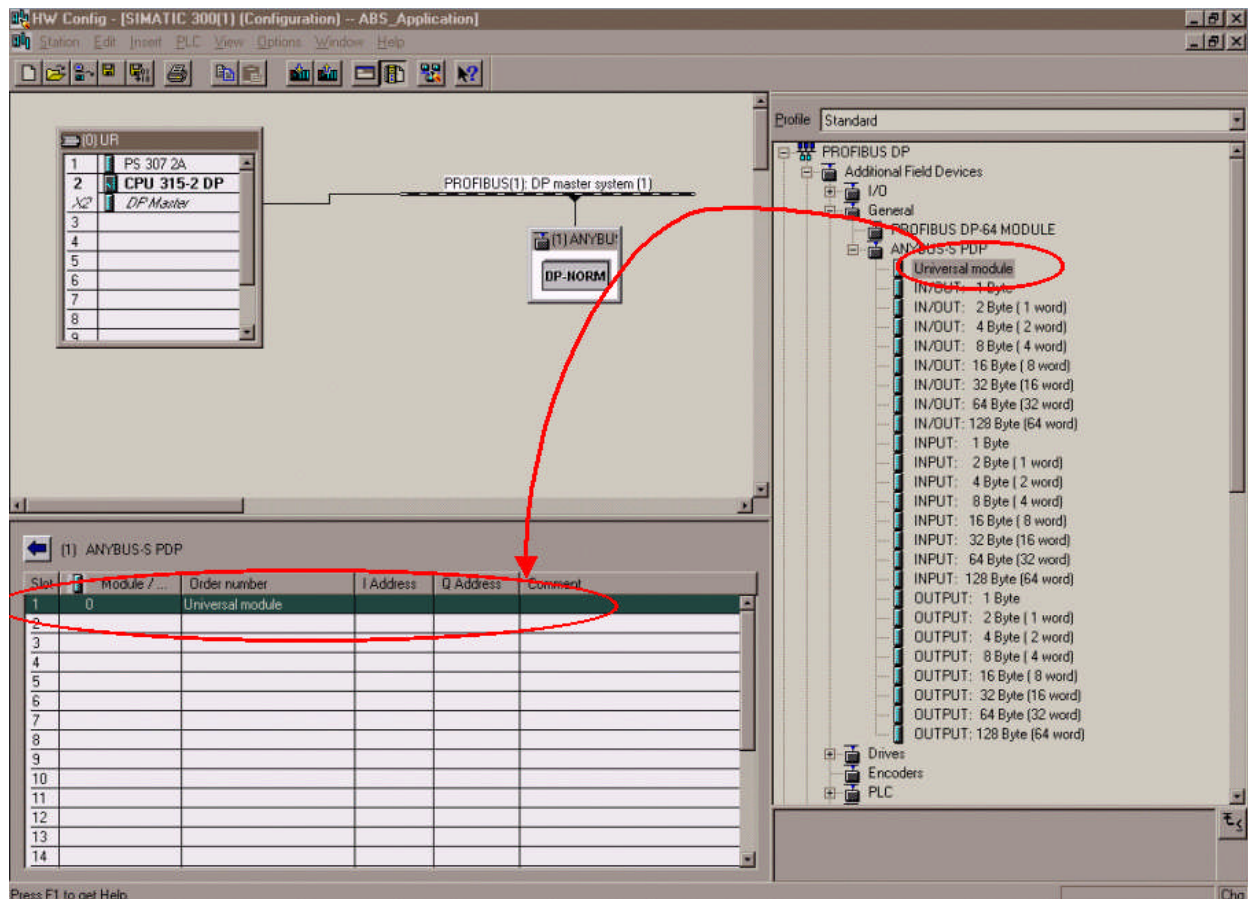
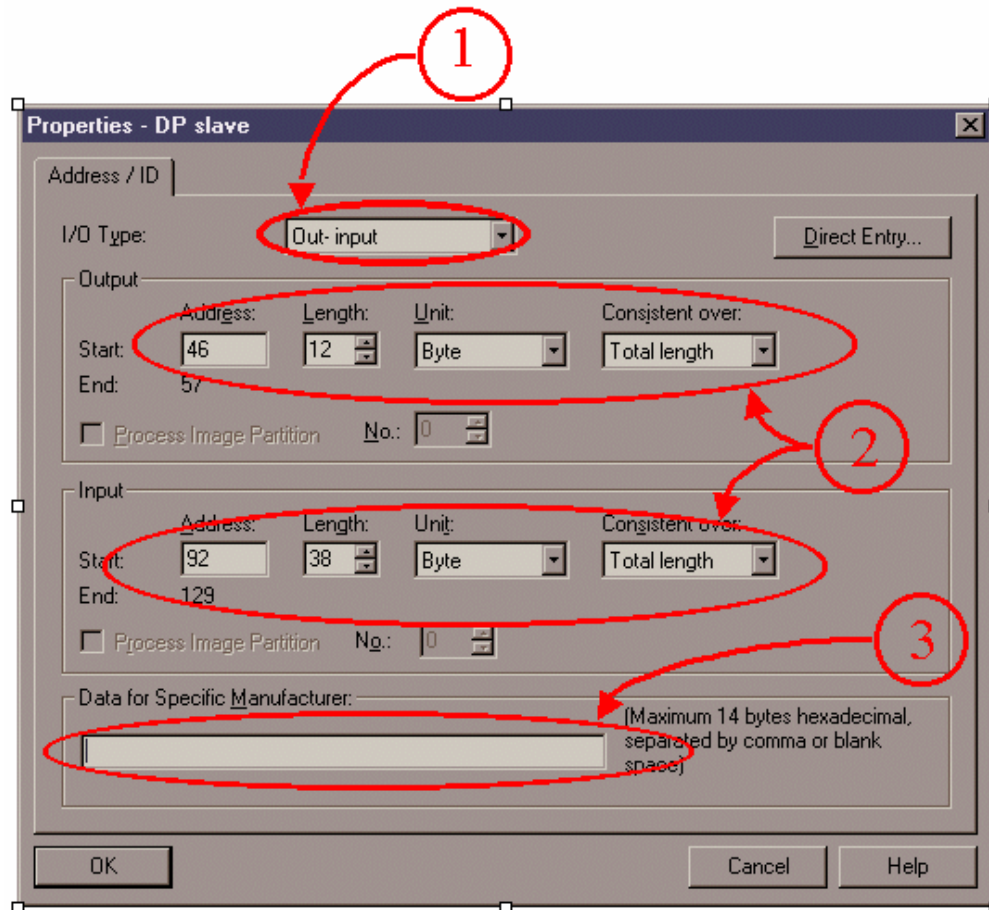
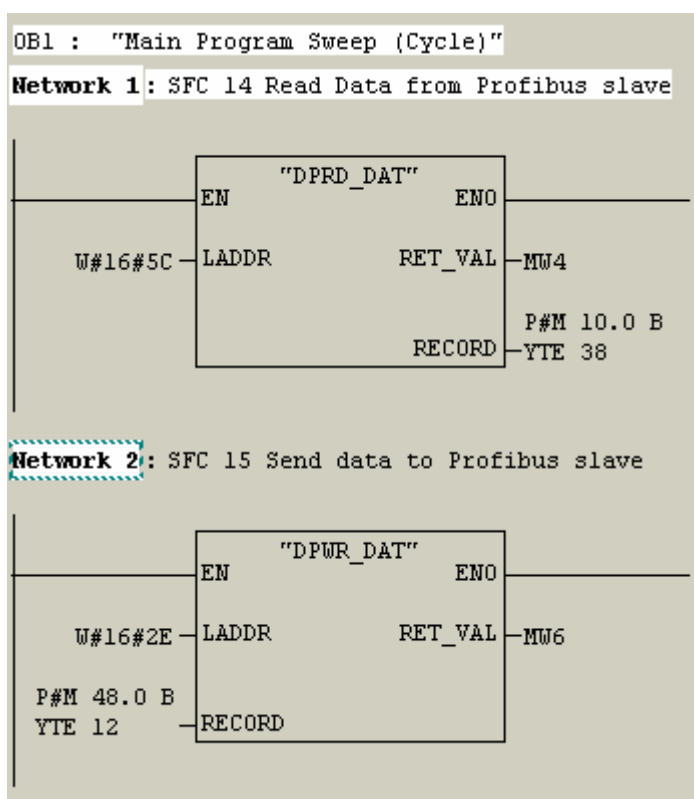

Figure 16 Selecting the Universal Module for consistent data transfer
Figure 17 Specifying the properties for the Universal Module
Figure 18 The use of the SFC14 and SFC15 in the PLC program
The first thing that has to be done is to specify the consistent data area in the hardware configuration. The “Universal Module” can be selected with “drag and drop” as shown in Figure 16.
In Figure 17 it is shown how to set the properties of the Universal Module. This window is opened by double clicking on the Universal Module line in the list of selected modules. The desired data type (In, Out, or In/Out) is set with the list box shown at ❶. Then the offset, length, unit and consistency settings can be done as shown at ❷. In the example below the output data length is set to 12 bytes and the input data length set to 38 bytes with consistency over the total length. The address offsets are set to 46 respective 92.
To read out the consistent data specified in Figure 16 and Figure 17 a PLC program has to be written that uses SFC14 and SFC15. An example of this is shown in Figure 18. These two SFC:s are included in the Step7 standard package and they also have to be imported into the active project. They can be copied from the “Standard Library” or from the CPU online. Refer to the Step7 documentation for details regarding this.
The function blocks ensure that data consistency is secured over the complete data length. Where the data is to be read or put in the process image is decided in the hardware configuration, see Figure 17.
**LADDR:** specifies the start byte address of the data to be read. The value is entered in Hex. In this case the start byte address is 92 (=5C Hex) which can be found at ❷ in Figure 17.
**RECORD:** This is where the data is copied to. In this case it is copied to memory byte 10 to 47. (i.e. MB10-MB47). The length must equal the length set at ❷ in Figure 17.
LADDR: specifies the start byte address of the data to be sent. The value is entered in Hex. In this case the start byte address is 46 (=2E Hex) which can be found at ② in Figure 17.
RECORD: This is where the data is read from. In this case it is read from memory byte 48-59. (i.e. MB48-MB59). The length must equal the length set at ② in Figure 17.
In the example below (Figure 18) it is described how the PLC program can be done.